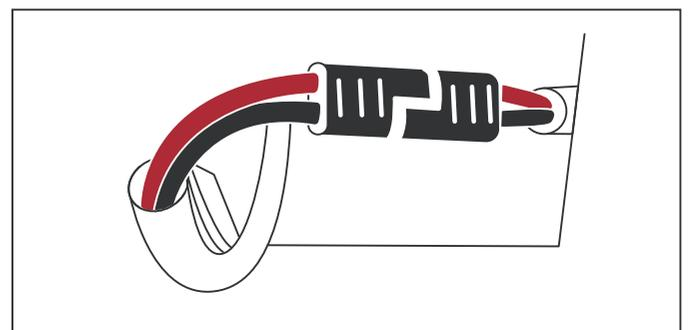

Fig.4
- 2 A quick-connect battery plug is pre-installed on the battery. Just connect the battery plug (see **Fig.4**).